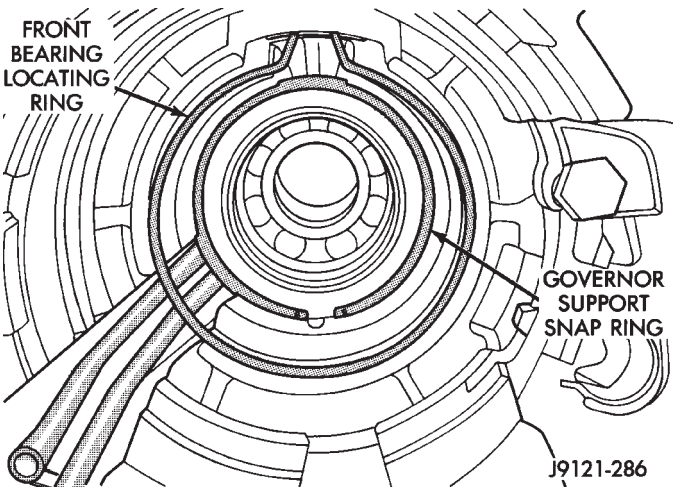

Fig. 12 Front Bearing Locating Ring And Governor Support Snap Ring Location
(12) Remove output shaft front bearing locating ring and governor support snap ring (Fig. 12).